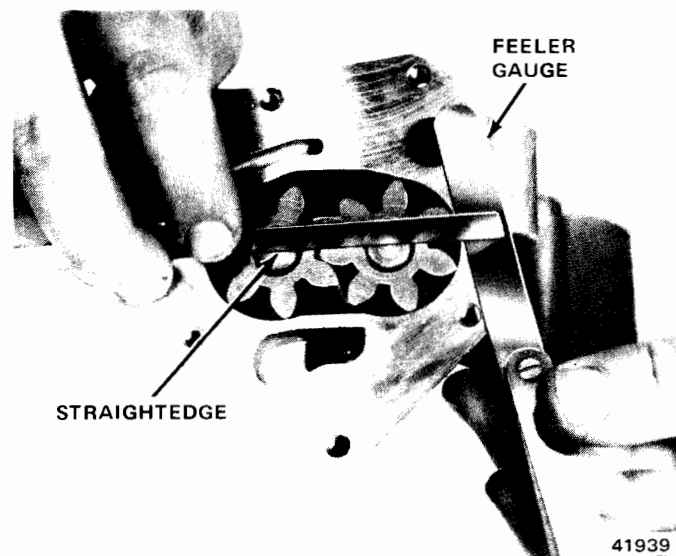

Fig. 1B-26 Gear End Clearance Measurement
(1) Place straightedge across gears and pump body.
(2) Select a feeler gauge which will fit snugly but freely between straightedge and pump body (fig. 1B-26).